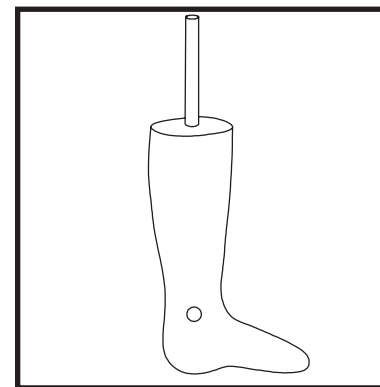

Figure 1: Positive Cast
1. Place the Alignment tool into the mold allowing 3/16" clearance per side. Pour the plaster cast as shown in Figure 1. Once the mold has cured remove the rod.